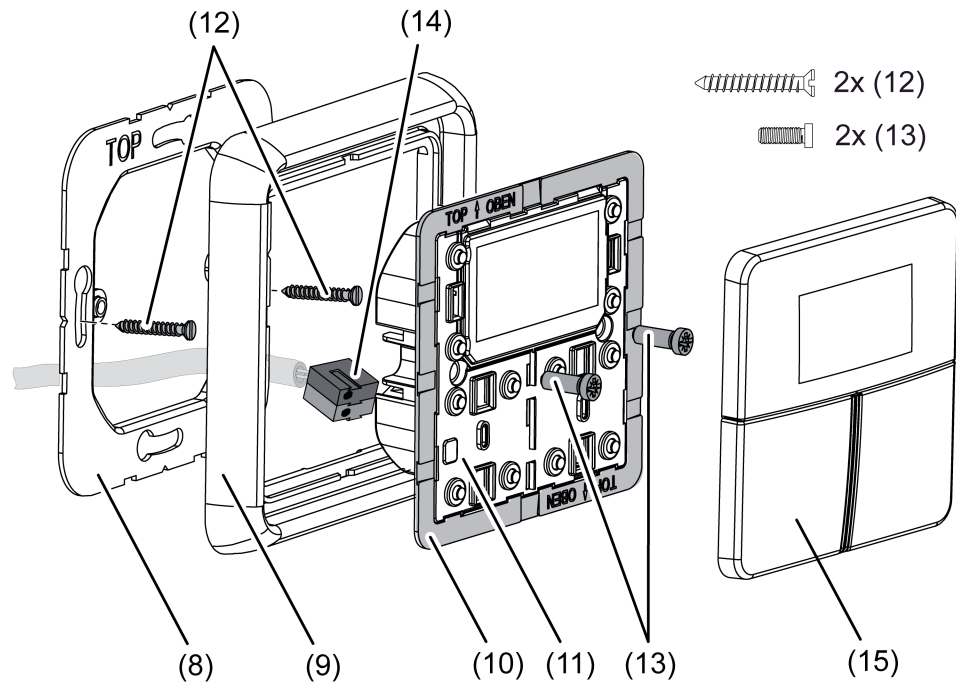

Figure 3: Mounting the room controller module
- With the adapter frame (10) in the correct orientation, snap it from the front onto the room controller module (11) (figure 3). Note marking **TOP** = top/front.